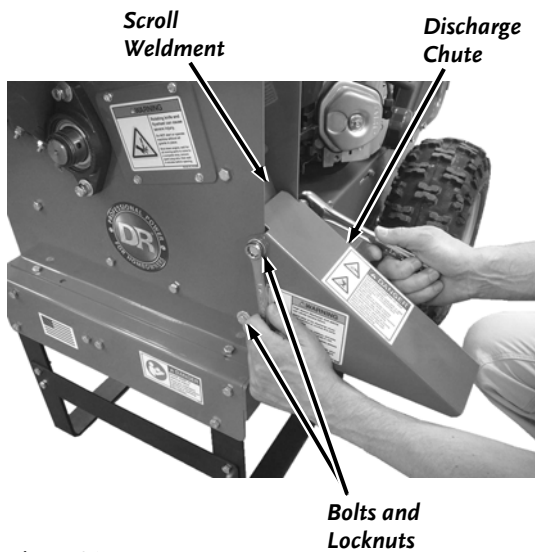

Figure 31
2. Remove the two Bolts, four Washers and two Locknuts that secure the Deflector to the Chipper Assembly with two 1/2" wrenches and then remove the Deflector (**Figure 31**).
1. Position the Deflector onto the Chipper Assembly and secure with two Bolts, four Washers (one on each side) and two Locknuts using two 1/2" wrenches (**Figure 31**).